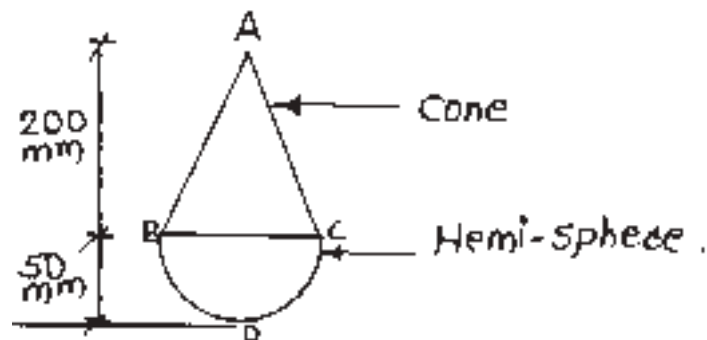

Fig. No. 10
- c) Locate centre of gravity of a composite solid body from tip 'A' of the cone as shown in Fig. No. 10.